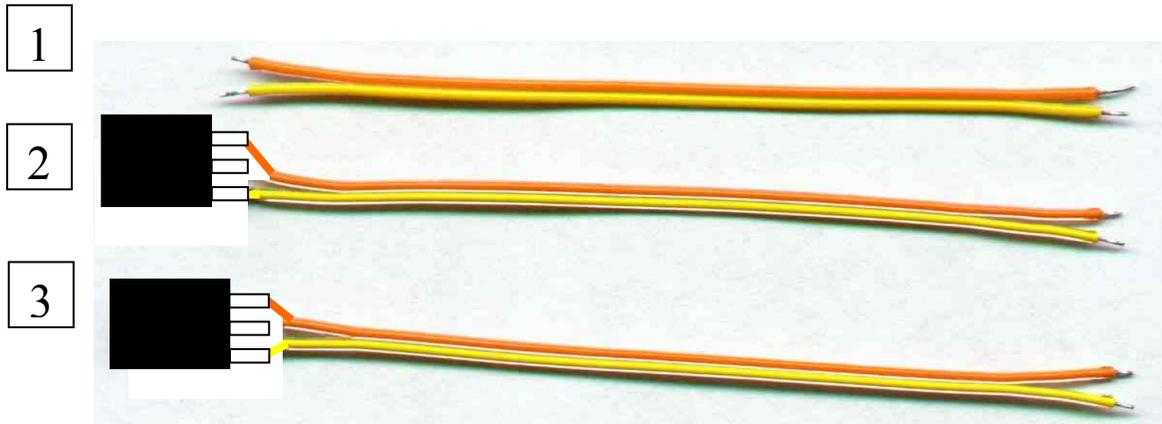
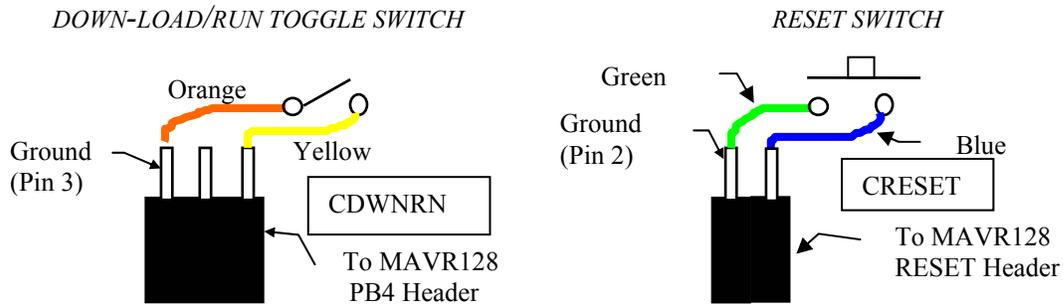

Figure 24. F2W2 DOWNLOAD/RUN CABLE: CDWNRN (3 inches).
Figure 34. Solder CDWNRN to the Download/Run toggle switch and CRESET to the red push button switch and connect to MAVR128™ Headers PB4 and RESET, respectively.
For Figure 24,
Refer to **Figure 34**, **Figure 22**, **Table 13**, and **Table 14**.
3. Cable the push button *Reset* and the *Download-Run* switches according to the circuit in and **Figure 34**. Use CRESET (**Figure 25**) and CDWNRN (**Figure 24**) cables, respectively.